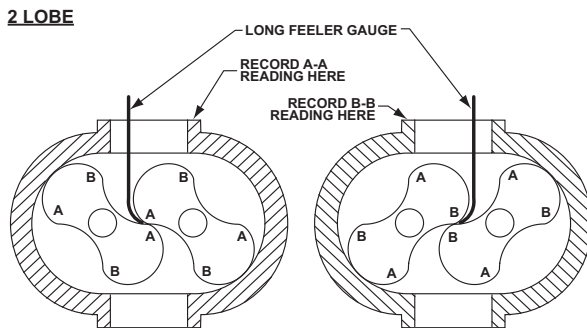

Figure 8-4 – Checking Rotor Interlobe Clearance
25. Use feeler gauges to check the clearance at AA (right-hand reading) and BB (left-hand reading) (*see Figure 8-4*). The clearance should be adjusted so it is as equal between all lobes as possible, usually between 0.002 to 0.003 in. (0.0508 to 0.0762 mm). For best results, use feeler gauges no larger than 0.006 in. (0.1524 mm).